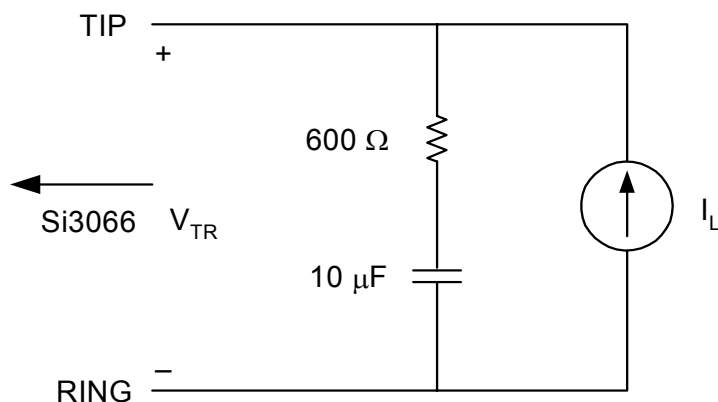

Figure 1. Test Circuit for Loop Characteristics
($V_D = 3.0$ to 3.6 V, $T_A = 0$ to 70 °C, see Figure 1)
1. Measured at TIP and RING with 600 Ω termination at 1 kHz, as shown in Figure 1.